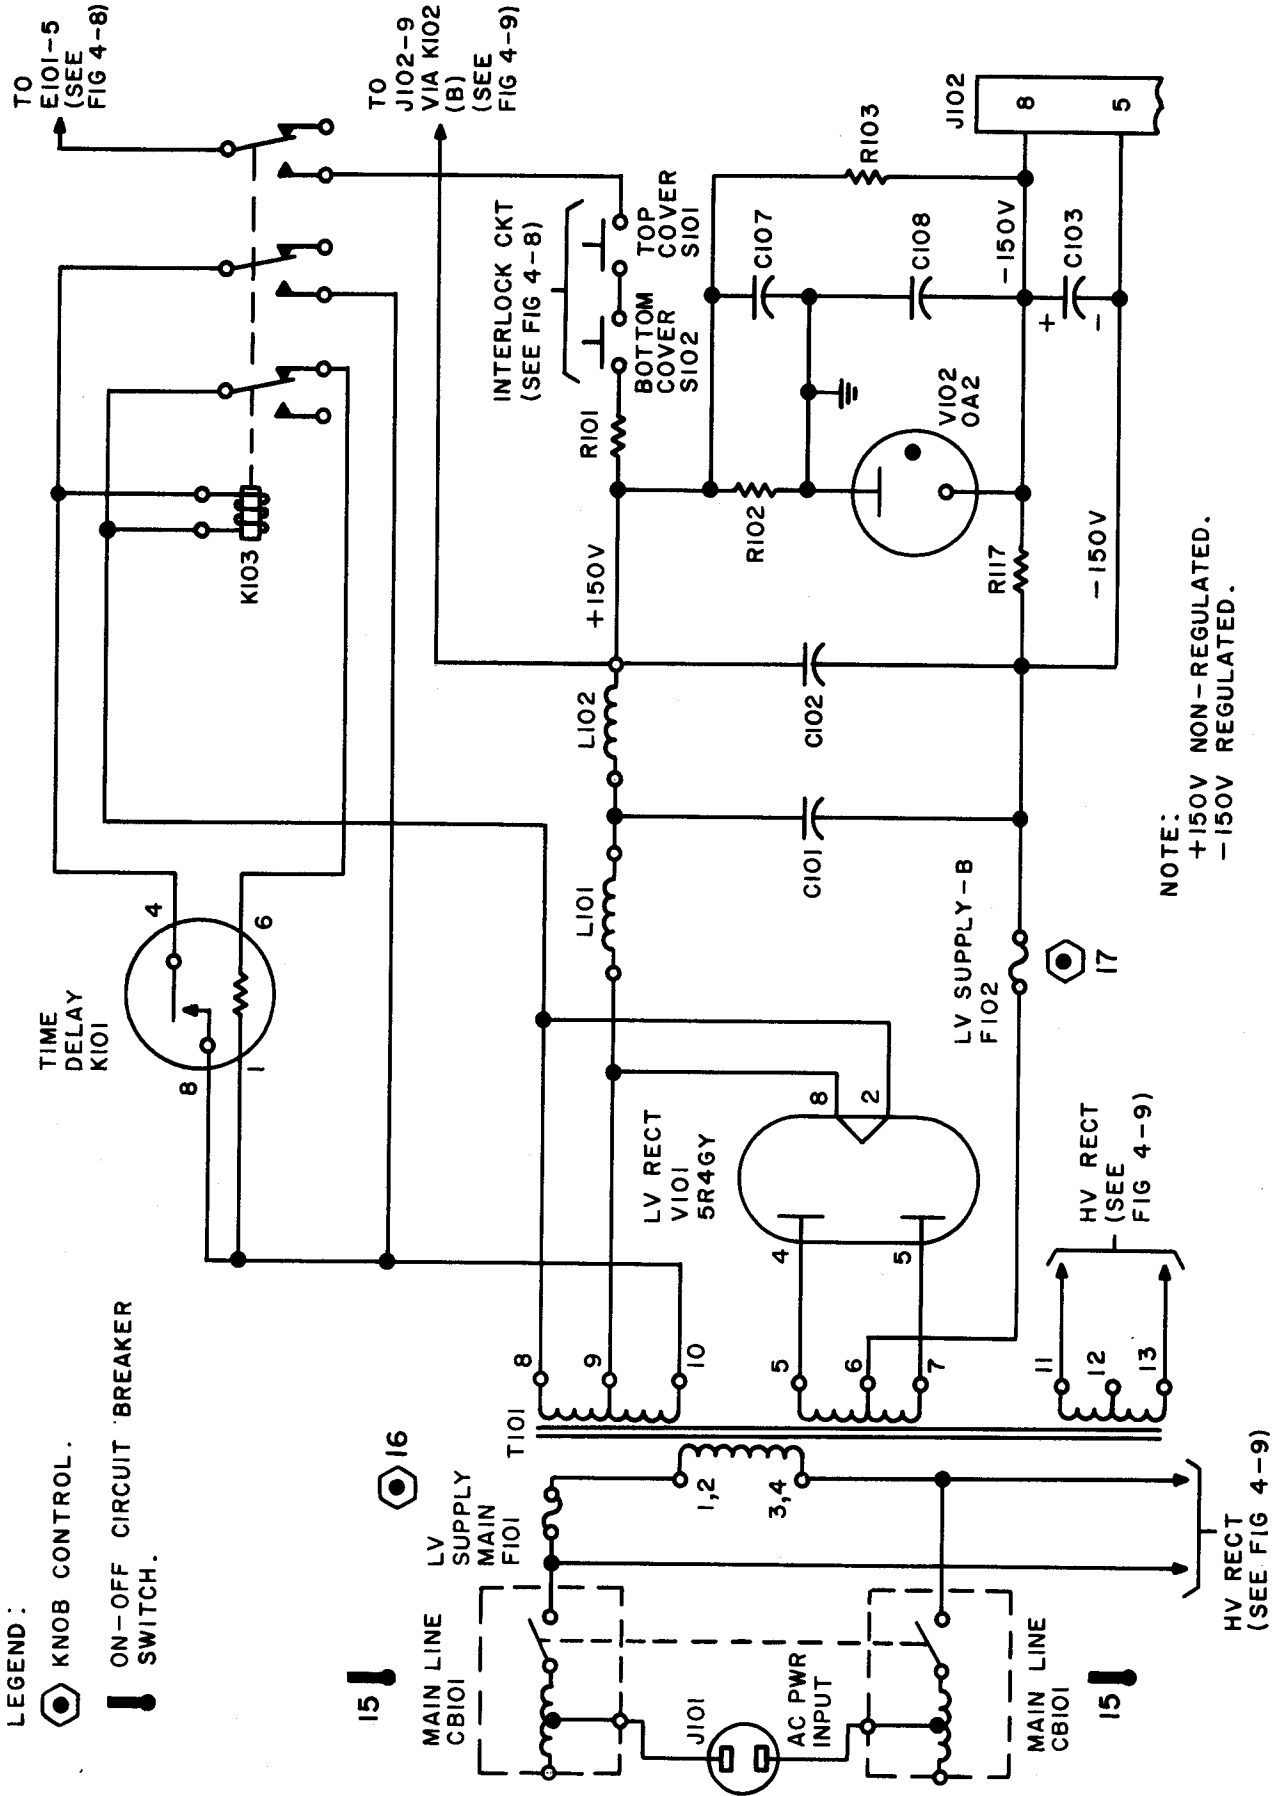

Figure 4-10. Simplified Schematic, Low Voltage Power Supply Circuit, PAL-350
c. LOW VOLTAGE CIRCUIT. (See figure 4-10.) The low voltage power supply contains a high vacuum, full-wave, rectifier. This supply provides a voltage of +150 volts (unregulated) and -150 bias (regulated) voltage for the final amplifier, and screen voltage to the driver stage.